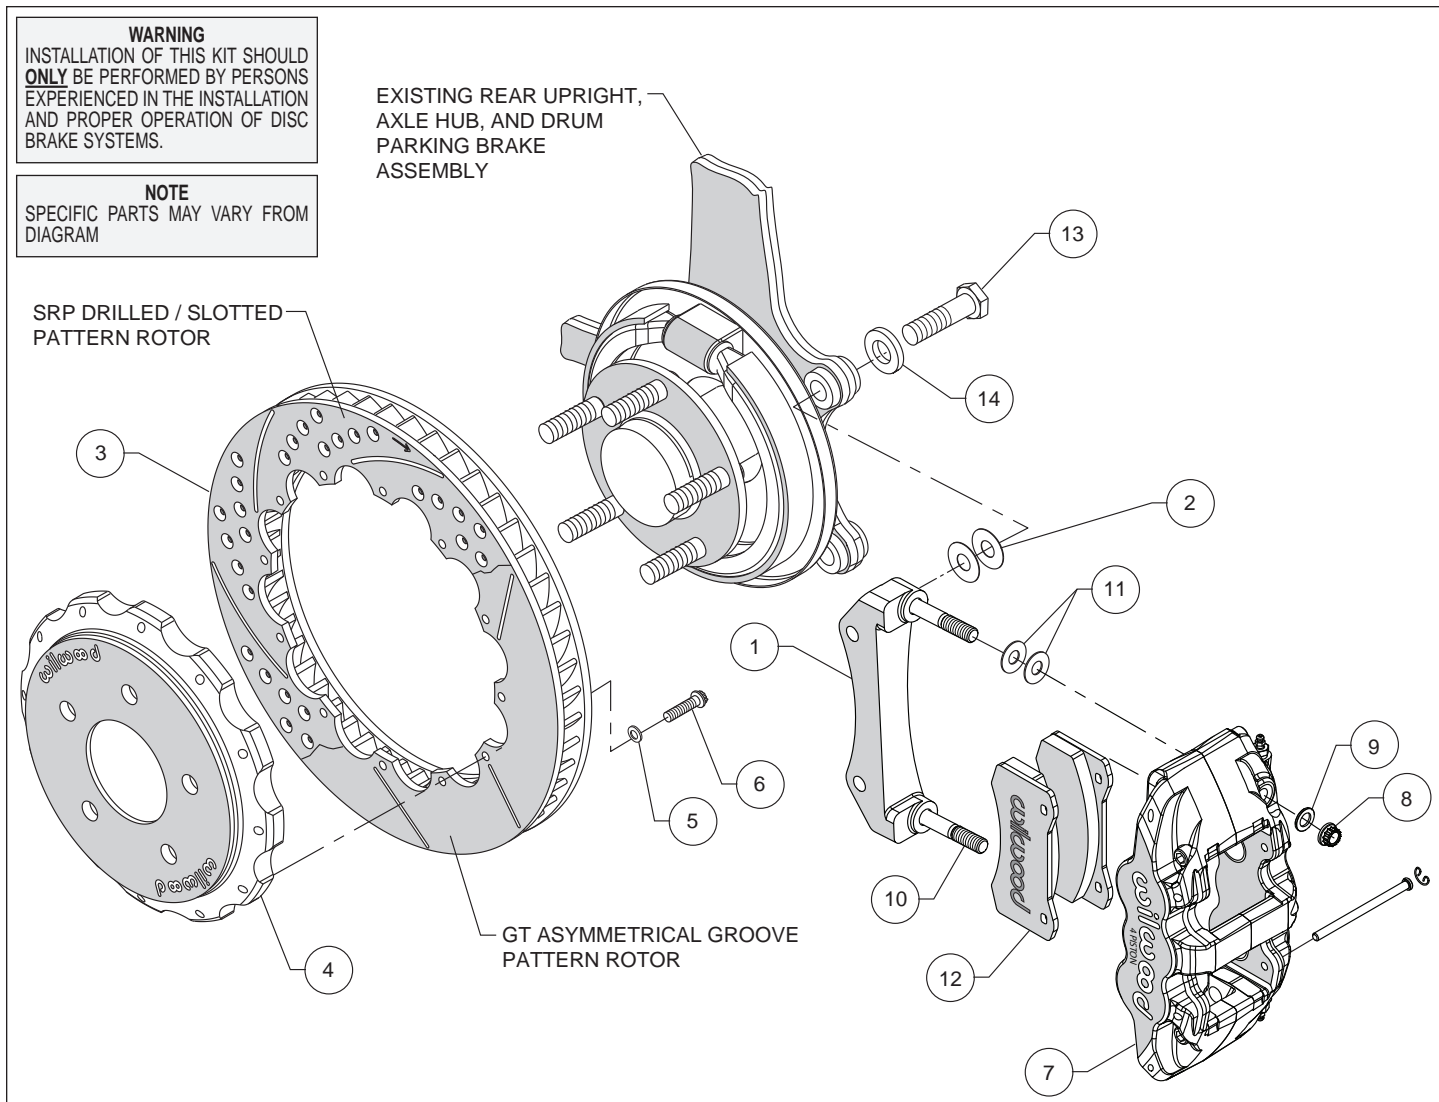
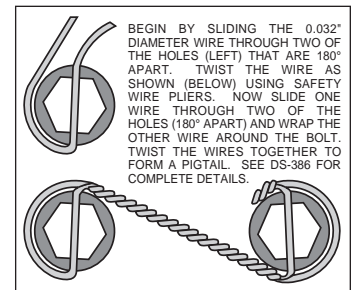

Figure 1. Typical Installation Configuration
Figure 3. Safety Wire Diagram
Assembly Instructions (numbers in parenthesis refer to the parts list and Figure 1 on the preceding pages):
- The caliper mount bracket assembly (1) should initially be installed with clean, dry threads on the mounting bolts. Orient the bracket, as shown in Figure 1, Photo 1, and Photo 2. Install using bolts (13) and washers (14), Figure 1. Initially place two .029" thick shims (2), on each bolt between the bracket and upright, Figure 1 and Photo 1. Temporarily tighten the mounting bolts. **NOTE:** *The bracket must fit squarely against the mount bosses on the upright.* Inspect for interference from casting irregularities, machining ridges, burrs, etc. Later, after the caliper alignment has been checked, the mount bolts will be secured using *Loctite*[®].
- Orient the rotor (3) and the hat (4) as shown in Figure 1 and Photo 3. Attach rotor to hat using bolts (6) and washers (5). Using an alternating sequence, apply red *Loctite*[®] 271 to the threads and torque bolts to 140 **in-lb**. For an added measure of security, the bolts may be safety wired using standard 0.032 inch diameter stainless steel safety wire as shown in Figure 3. Please refer to Wilwood's data sheet DS-386 (available at www.wilwood.com/Pdf/DataSheets/ds386.pdf) for complete safety wire installation instructions.
- Lubricate the caliper mounting studs (10) with lightweight oil. Initially place two .030" thick shims (11) on each stud between the caliper and the bracket, as shown in Figure 1 and Photo 4. With the bleed screws pointing up, mount the caliper (7) onto the bracket (1) using lock nuts (8) and washers (9), Figure 1. Temporarily tighten the lock nuts and view the rotor through the top opening of the caliper. The rotor should be centered in the caliper, Photo 5. If not, adjust by adding or subtracting shims (2) between the bracket and the upright. Always use the same amount of shims on each of the two mounting bolts. Once the caliper alignment is correct, remove the bracket mounting bolts one at a time, apply red *Loctite*[®] 271 to the threads, and torque to 65 ft-lb.
- Remove the two pad retaining pins from the caliper (7) by carefully popping out the pin retaining clips and sliding out the pins. Insert the brake pads (12) into the caliper from the bottom, Figure 1 and Photo 6. With the friction material facing the rotor, secure the brake pads in place with the pad retaining pins and clips, Photo 7. Reinstall the caliper onto the caliper mounting bracket and temporarily tighten the lock nuts. Check that the top of the brake pad is flush with the outside diameter of the rotor, Photo 8. If not, adjust by adding or subtracting shims (11) between the caliper and the bracket. After the caliper pad height is set, torque the caliper lock nuts (8) to 47 ft-lb.